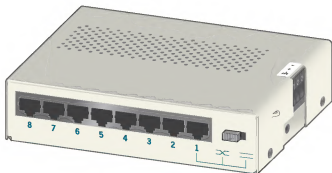

Figure 2. Rear Panel RJ-45 Jacks
- All Ethernet equipment connections to the 10Base-T Hub are made using modular RJ-45 jacks (labeled 1 through 8) located on the rear panel (see Figure 2).
Figure 2 shows the compliance codes for the 10Base-T Hub. The 10Base-T Hub is NRTL-listed to the applicable standards. It meets or exceeds all the applicable requirements of NEBS, Telcordia GR-63-CORE, and GR-1089-CORE.